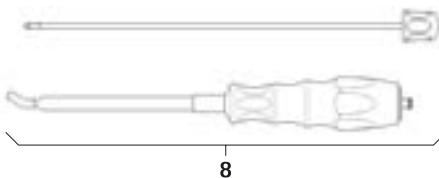

Fig. 3
- To dismount rod insertion instrument 8, see Fig. 3: